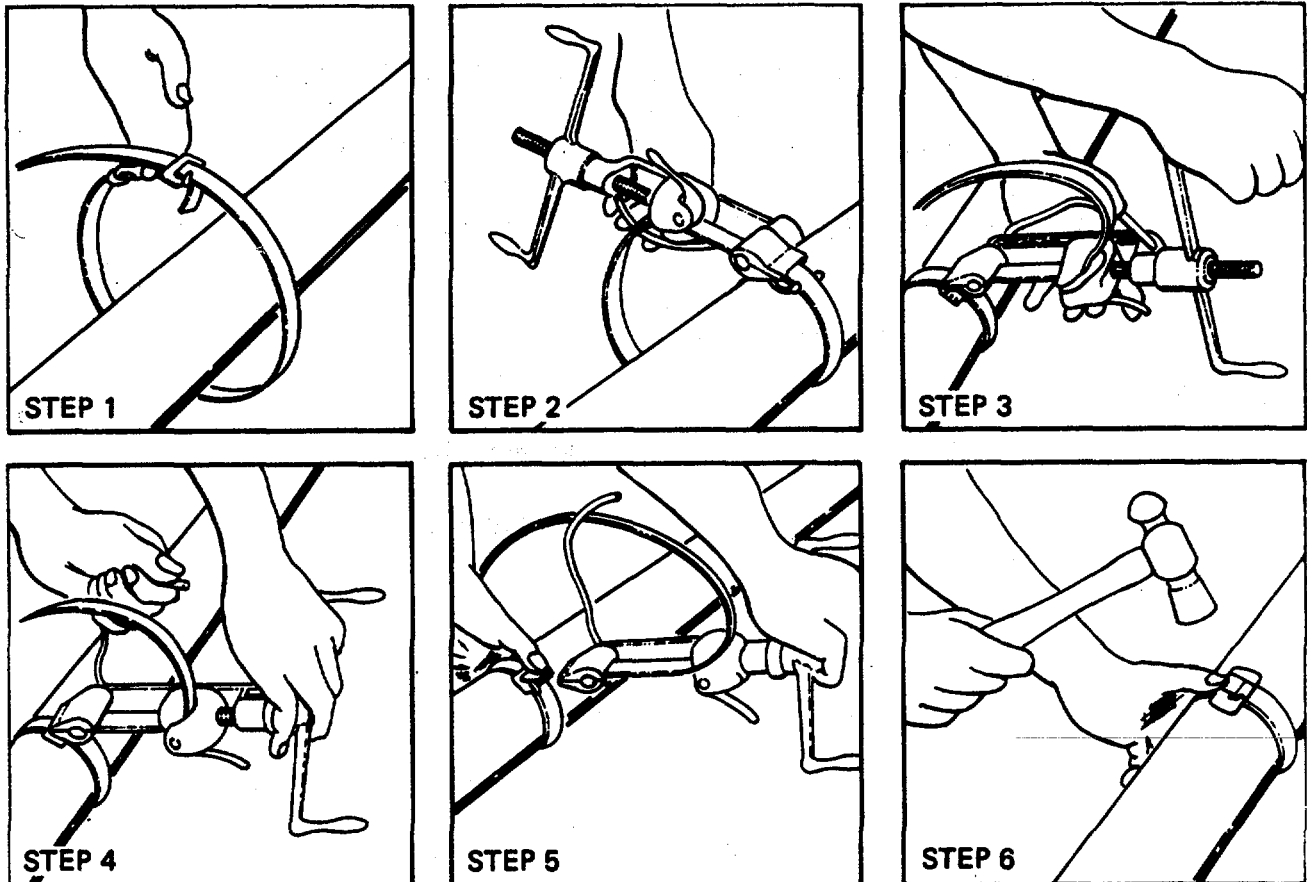

Figure 4-3. Clamp Installation Using Clamping Tool (Appendix C, Item 38).
(2) When using hose clamps made from bulk hose clamp strapping, use clamping tool (Appendix C, Item 38) and perform the following steps (a) through (h). (Refer to Figure 4-3.)